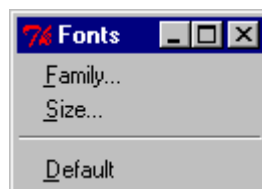

Figure 4-6. Fonts Characteristics Dialog Box
2. Click **F**onts... The **F**onts dialog box appears. Figure 4-6 shows the **F**onts dialog box:
2. Click **F**onts... The **F**onts characteristics dialog box appears as shown in Figure 4-6.